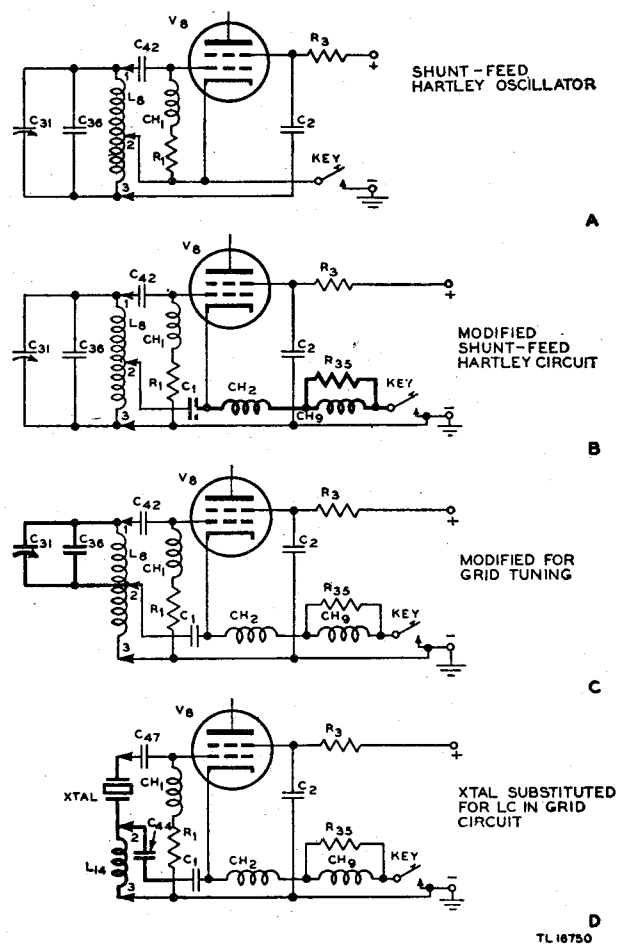

Figure 54. Equivalent circuits of master oscillator.
*a. HARTLEY OSCILLATOR.* For purposes of comparison, each part in the Hartley circuit (fig. 54(A)) is given the part number of the corresponding part used in Radio Transmitter BC-610-E. The functioning of the parts in the shunt-feed Hartley oscillator (fig. 54(A)) is as follows:
(1) The screen grid of tube  $V_8$  (Tube JAN-6V6 (VT-107)) acts as the anode (plate) of a triode oscillator for which the control grid and cathode form the other two triode elements.
(2) Inductor  $L_8$  is connected so that the turns between 1 and 2 are between the grid and cathode,
(8) Before the key is closed, the bias is zero. When the key is closed, d-c supply voltage is applied between the oscillator anode and cathode. This change of plate voltage causes a flow of energy from the anode through capacitor  $C_2$  and the plate section (2-3) of coil  $L_8$  to the cathode. This current in the plate section of  $L_8$  induces a voltage across both the plate and the grid section (1-2) of  $L_8$ . The voltage induced across  $L_8$  charges capacitor  $C_{31}$  and  $C_{36}$ , and the resonant circuit starts oscillating. The oscillating current in  $L_8$  causes an r-f voltage across both sections of the coil. The voltage across the grid section (1-2) is coupled through the grid capacitor to the grid, and this voltage is the grid excitation voltage. The excitation voltage is an r-f voltage at the resonant frequency of  $L_8$ ,  $C_{31}$ , and  $C_{32}$ . As the excitation voltage varies the grid to cathode voltage, corresponding variations of anode voltage occur and additional energy is fed back through  $C_2$  to the plate section of  $L_8$  in the resonant circuit. The energy thus fed back is sufficient to make up for the losses in the resonant circuit, so that its oscillations continue. As the grid excitation voltage swings the grid positive, capacitor  $C_{42}$  charges to a voltage nearly equal to the positive peak of the excitation voltage. The voltage of  $C_{42}$  acts as a bias voltage. Grid leak  $R_1$  prevents  $C_{42}$  from discharging rapidly when the excitation voltage is lower than the grid capacitor voltage. In other words, the grid capacitor and the grid leak work together to develop the bias voltage for the oscillator stage.
**b. MODIFIED HARTLEY CIRCUIT IN MASTER OSCILLATOR.** The modified Hartley circuit of Tuning Unit TU-47 (fig. 54(B)) operates the same as the ordinary Hartley circuit, except for the following circuit changes:
(1) Chokes  $CH_2$  and  $CH_9$  are inserted between the cathode of  $V_8$  and the key.
(3) Capacitor  $C_1$  is between the cathode of  $V_8$  and point 2, the junction of the plate and grid sections of  $L_8$ .
(4) When the key is closed, the cathode is connected through the low d-c resistance of choke coils  $CH_2$  and  $CH_9$  to ground. The oscillator action is then the same as explained in *a* above, except that the high r-f impedance of choke coils  $CH_2$  and  $CH_9$  forces the r-f variations at the oscillator anode to feed back through the lower r-f impedance of the cathode section (2-3) of  $L_8$ . Capacitor  $C_1$  is included to keep the d-c current from flowing through the cathode section of  $L_8$ , but  $C_1$  effectively connects the cathode to point 2 at radio frequencies.
**a. CRYSTAL CONTROL WITH TUNING UNIT TU-47.** The modified Hartley circuit of figure 54(B) could be further modified as shown in figure 54(C). Under this condition, the cathode section (2-3) of  $L_8$  would not form a part of the resonant LC circuit. The frequency of oscillation would now be determined by the resonant circuit composed of the grid section (1-2) of  $L_8$  and capacitors  $C_{36}$  and  $C_{31}$ . The resonant circuit ( $L_8$ ,  $C_{36}$ , and  $C_{31}$ ) is the equivalent circuit of a crystal at its resonant frequency. When the M.O.-XTAL switch of Tuning Unit TU-47 is placed in the XTAL position, the m-o circuit of figure 54(D) is in use. Examination of this circuit shows that—
(1) The crystal has been substituted for its equivalent circuit.
(2) Capacitor  $C_{44}$  has been placed in series with capacitor  $C_1$ .
(3) Inductor  $L_{14}$  has been substituted for  $L_8$ .
(4) The circuit functions the same as explained
in *a* and *b* above, except that  $L_{14}$  and  $C_{44}$  form a series resonant circuit between the cathode of  $V_8$  and ground. The value of  $L_{14}$  and  $C_{44}$  are so chosen that their resonant frequency is somewhat lower than that of the lowest frequency crystal to be used in the circuit. This choice of values assures proper operation of the circuit without tuning to each of the available crystal frequencies, since the circuit will act as an inductive cathode load over the entire frequency range of which Tuning Unit TU-47 is designed. As in the modified circuit of figure 54(B), the r-f variations at the oscillator anode are fed back through inductor  $L_{14}$ , because of the high r-f impedance choke coils  $CH_2$  and  $CH_9$ . The voltage thus developed across  $L_{14}$  exerts an electrical strain on the crystal so that it vibrates mechanically and develops the grid excitation voltage.